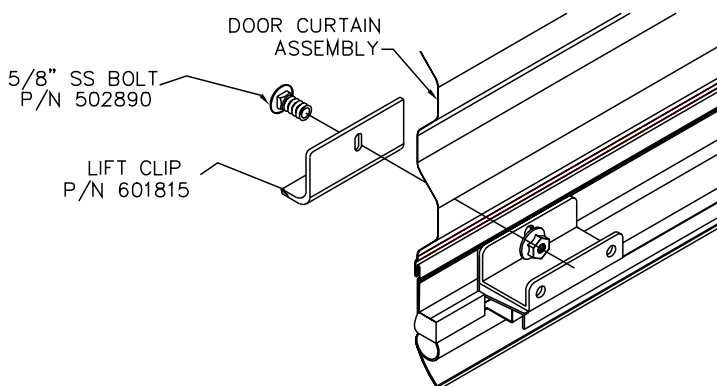

Figure 17.
12.1 If your door is equipped with an exterior latch, install the lift clip on the exterior of the door as shown in Figure 17. Replace the current stainless steel bolt with the longer 5/8" bolt supplied.